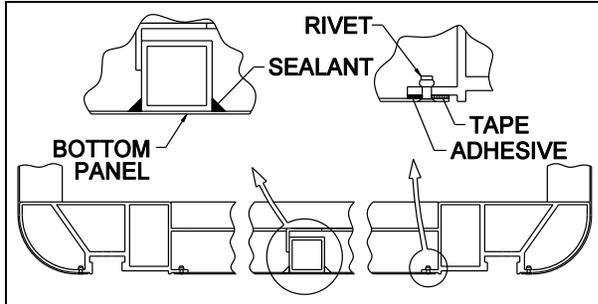
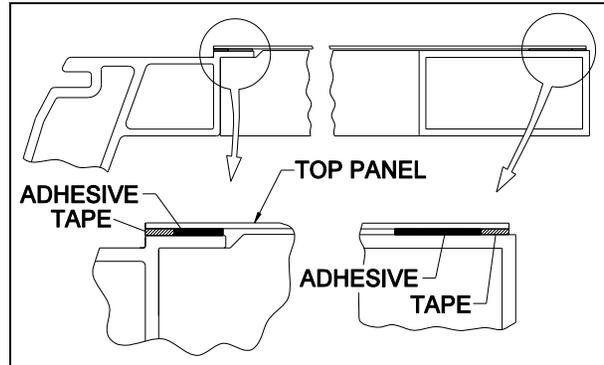

FIGURE 45 : TOP AND BOTTOM PANEL INSTALLATION
FIGURE 46 : TOP AND BOTTOM PANEL INSTALLATION
2. Remove panel rivets with a 1/8" drill bit, a hammer and a punch (figure 45).
- See figure 45 and figure 46 for both bottom and top panel adhesive, sealant and tape position.